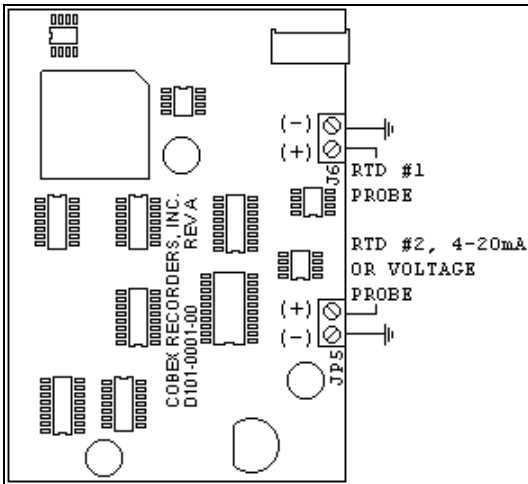

Figure 1A: Microprocessor PC Board (Type "A").
Next, you will need to determine the *type* of microprocessor controller PC board that is installed in your recorder. Refer to Figures 1A, 1B and 1C and compare these figures to the microprocessor controller PC board that is installed in your recorder.
If your recorder has a **Type A** microprocessor controller PC board installed, then locate screw terminal blocks J6 and JP5. Screw terminal block J6 is normally used when connecting an RTD temperature probe and JP5 is normally used to supply a signal input to the recorder from a VOLTAGE or CURRENT type probe. JP5 may also be used when connecting a second RTD temperature probe (on a two pen recorder). Refer to Figure 1A for the location of J6 and JP5 on the microprocessor PC board.
Note: If your recorder has a **Type A** microprocessor controller PC board installed, then the current range that the recorder is operating in will be altered when this *change range* mode is entered. For example, if the recorder is currently operating in range #1 and the left arrow (#1) button is pressed for the eight second period as described above and then released, the current range will be advanced to range #2 and the LED light will begin flashing two (2) times. Refer to Figure 1A to determine if you have a **Type A** microprocessor controller PC board installed.